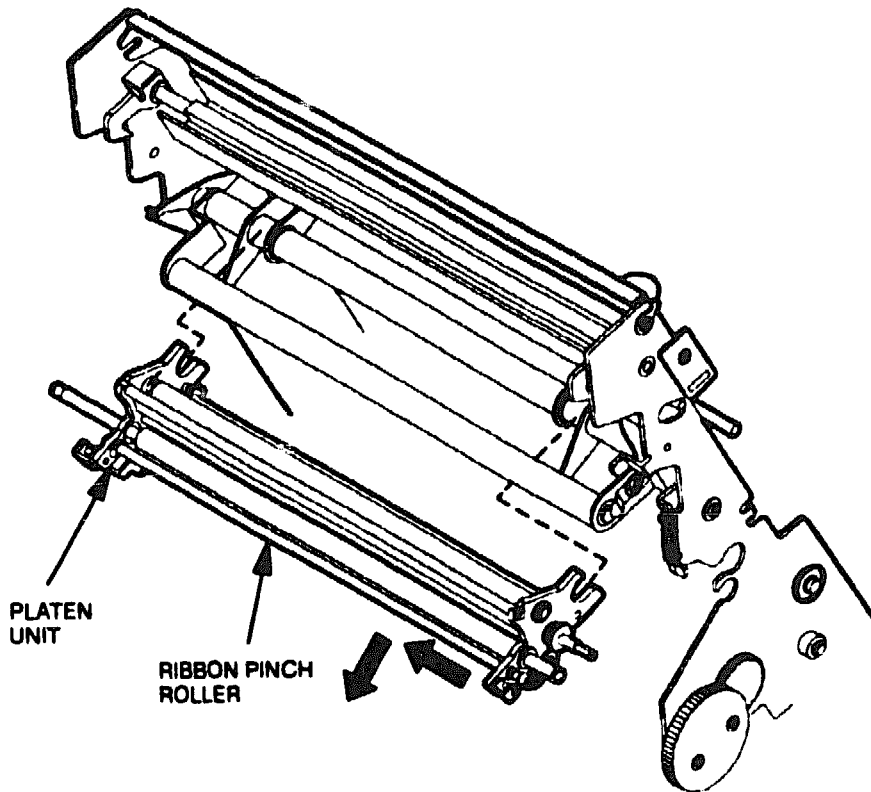

Figure 6-48 Platen Unit Removal
11. While being careful not to let the platen unit drop down on the thermal head, grasp the platen unit and slide it to the left. Remove the platen unit from the upper unit by pulling the ribbon pinch roller toward you (see Figure 6-48).